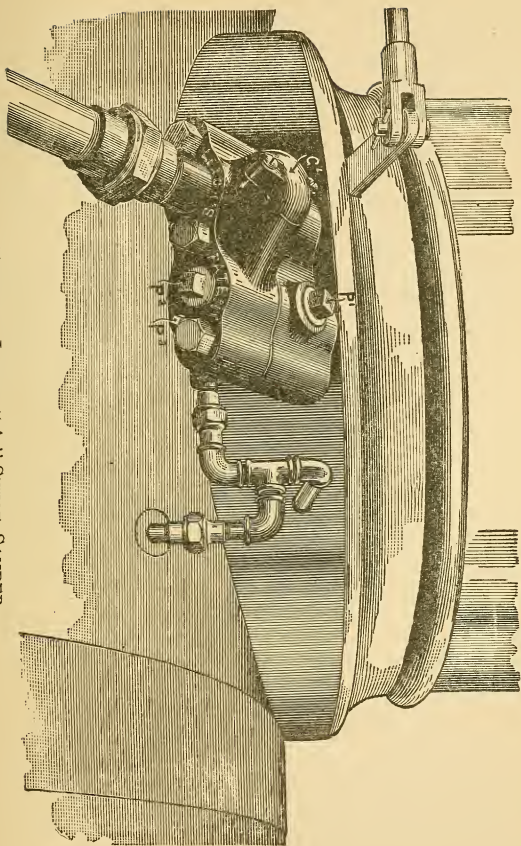

FIG. 50.—LEACH "A" STYLE SANDER.
*Q. How does the Leach "A" style of sander (Fig. 50) operate?*